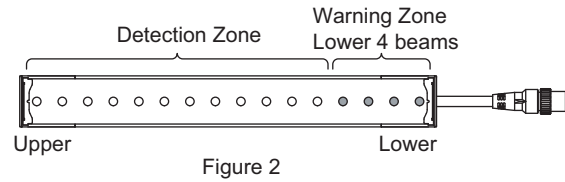

Figure 2
- Setting multiple zones (figure 2)